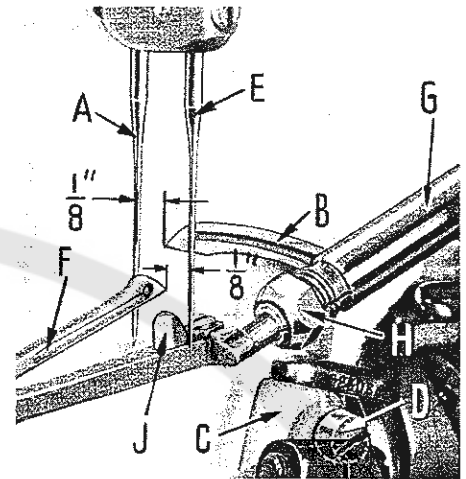
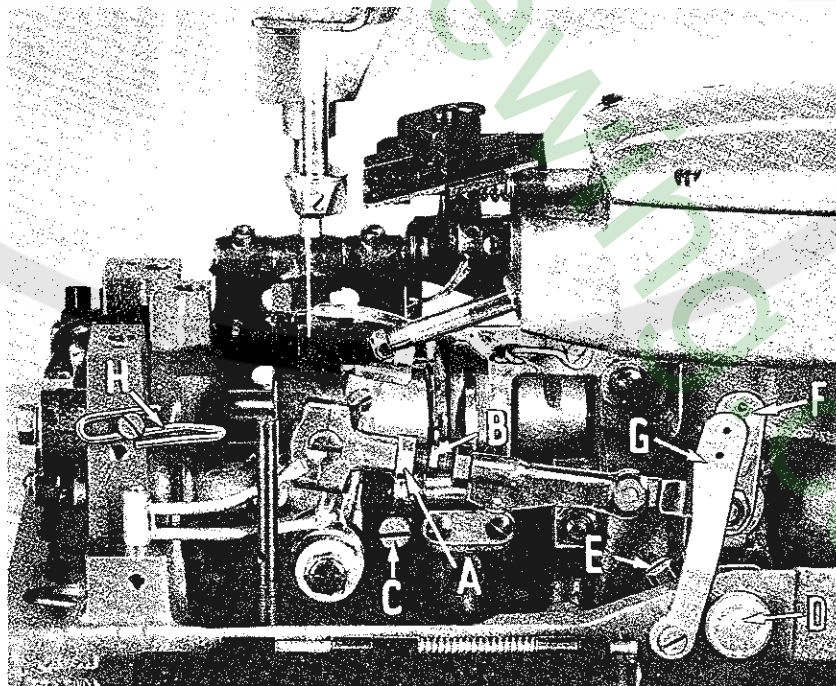

Fig. 3
Fig. 4
Insert the rear needle (A, Fig. 3), Type 108 GS, size as specified and insert the 401 stitch looper (B) in the looper rocker (C), and tighten screw (D). Rotate hand-wheel in operating direction until back looper is in the extreme right position. The looper should be set so that its point is $1/8$ inch from the center of the back needle, as in Fig. 3. Looper gauge No. 21225- $1/8$ can be used advantageously in making this adjustment. If adjustment is needed, loosen nut (A, Fig. 4) (it has a left hand thread) and also loosen nut on right end of connecting rod (B), turn connecting rod forward or backward to obtain $1/8$ inch, and retighten both nuts.
Insert the front needle (E, Fig. 3) and also insert the 503 stitch looper (F) in the lower looper bar (G), and tighten nut (H). Rotate handwheel in operating direction until front looper is in the extreme left position. The looper should be set so that its point is $\frac{1}{8}$ inch from the center of the front needle, as in Fig. 3. Looper gauge No. 21225- $\frac{1}{8}$ can be used advantageously in making this adjustment. If adjustment is needed, loosen nut (H) and slide looper in or out of its holder and retighten nut.
With the back looper (B, Fig. 3) in the looper rocker (C), turn the handwheel in the operating direction until the looper moves to the left and its point is even with left side of the needle (A). Note the height of the eye of the needle with respect to the looper point, then turn the handwheel in the reverse direction until the looper point again moves to the left and is even with the left side of the needle.
If the motions are synchronized, the height of the eye of the needle with respect to the looper point will be the same. A variation of .005 inch is allowable. If the distance from the eye of the needle to the point of the looper is longest when the pulley is turned in operating direction, move the looper drive lever shaft synchronizing stud (D, Fig. 4) to the rear. Moving it in opposite direction acts the reverse.
Moving of the looper drive lever shaft synchronizing stud is accomplished as follows: Loosen clamp screw (E, Fig. 4) of looper drive lever.
The 503 looper thread take-up (F, Fig. 4) should be positioned approximately on the center line of the looper drive lever as per Fig. 4. Eyelets (G, and H, Fig. 4) are positioned correctly when the lower looper thread is taut as the spreader reaches the left end of its travel.
To control the ratio of thread pulled during the leftward movement, use the thread take-up eyelet (G, Fig. 4).
Moving this eyelet to the left causes more looper thread to be drawn on the left hand stroke of the spreader, and moving it to the right causes less looper thread to be drawn. Moving this eyelet to the right or left also affects the drawing of the looper thread at the extreme left position. To readjust for this condition, move the eyelet (H, Fig. 4) to the right to reduce the thread drawn or to the left to reduce the amount of slack. The two eyelets (F and G) are to be adjusted in conjunction with each other so that the following conditions are met: (1) $\frac{1}{3}$ of the looper thread is drawn during the left stroke of spreader, and (2) No looper thread is drawn at the extreme end of stroke.